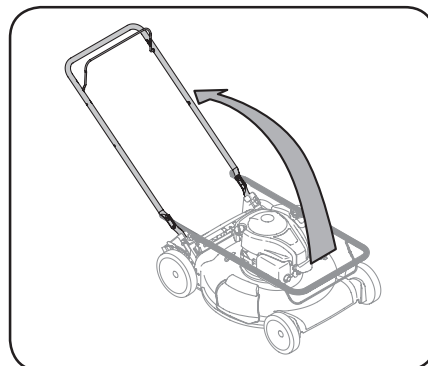

Figure 2-2
3. While stabilizing mower so it doesn't move, pivot upper handle up as shown in Figure 2-2. Do not crimp cable while lifting the handle up.